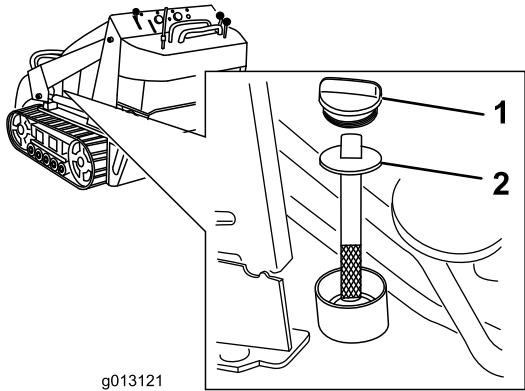

Figure 63
- Remove the hydraulic-tank cap and dipstick (Figure 63).